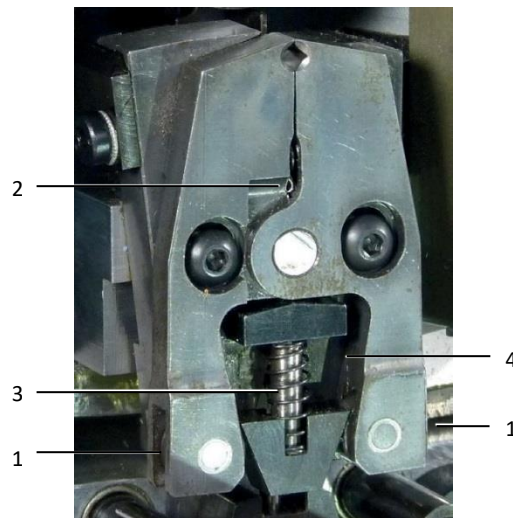

Fig. 14: Crimping tool
- Check whether the rollers (fig. 14, item 1) on the crimping tool are smooth-running.
- Check whether the rollers (fig. 14, item 2) on the sleeve holdingtongs are smooth-running.
- Oil the guide pin (fig. 14, item 3) of the sleeve holding unit.
- Oil the side running surfaces (fig. 14, item 4) of the sleeve holding unit.